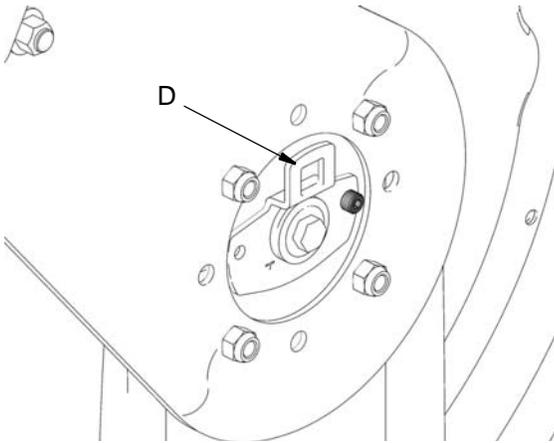

FIG. 24
6. Remove ratchet (C) from opening (D) (FIG. 24).